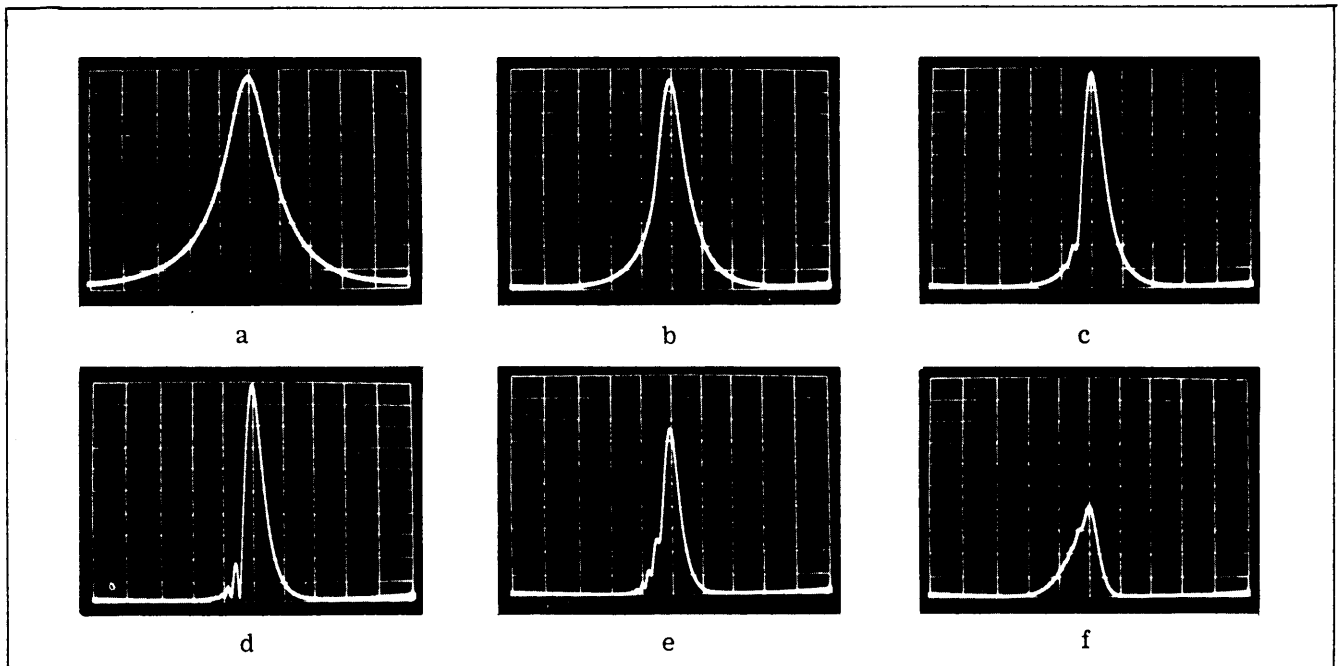

Figure III-2. Ringing as an Indication of Optimum Resolution.
slower sweep rate will be required. Optimum resolution can be recognized by the nature of the ringing pulses that will appear on the trailing edge of the signal pip as optimum resolution is approached. See Figure III-2.
5. If the resolution adjustment results in practically complete separation of signal pips, maximum resolution can be recognized by the presence of ringing pulses on the trailing edge of the pips as shown in Figure III-2. Illustrations (a) to (f) of Figure III-2 indicate progressive variations in pip width caused by counterclockwise rotation of the IF BANDWIDTH control. In (a) and (b) i-f width is broad for the particular scanning